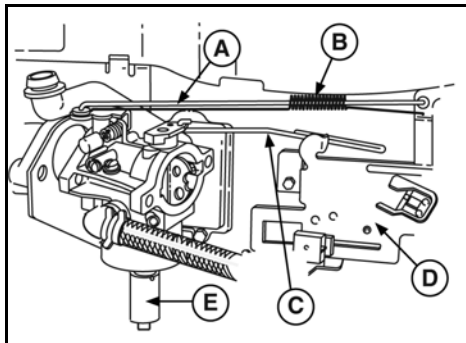

Figure 55
1. Disconnect the wire from the carburetor solenoid (E, Figure 55).
5. Carefully rotate the carburetor to disengage the choke linkage (C), governor link (A), and governor link spring (B).